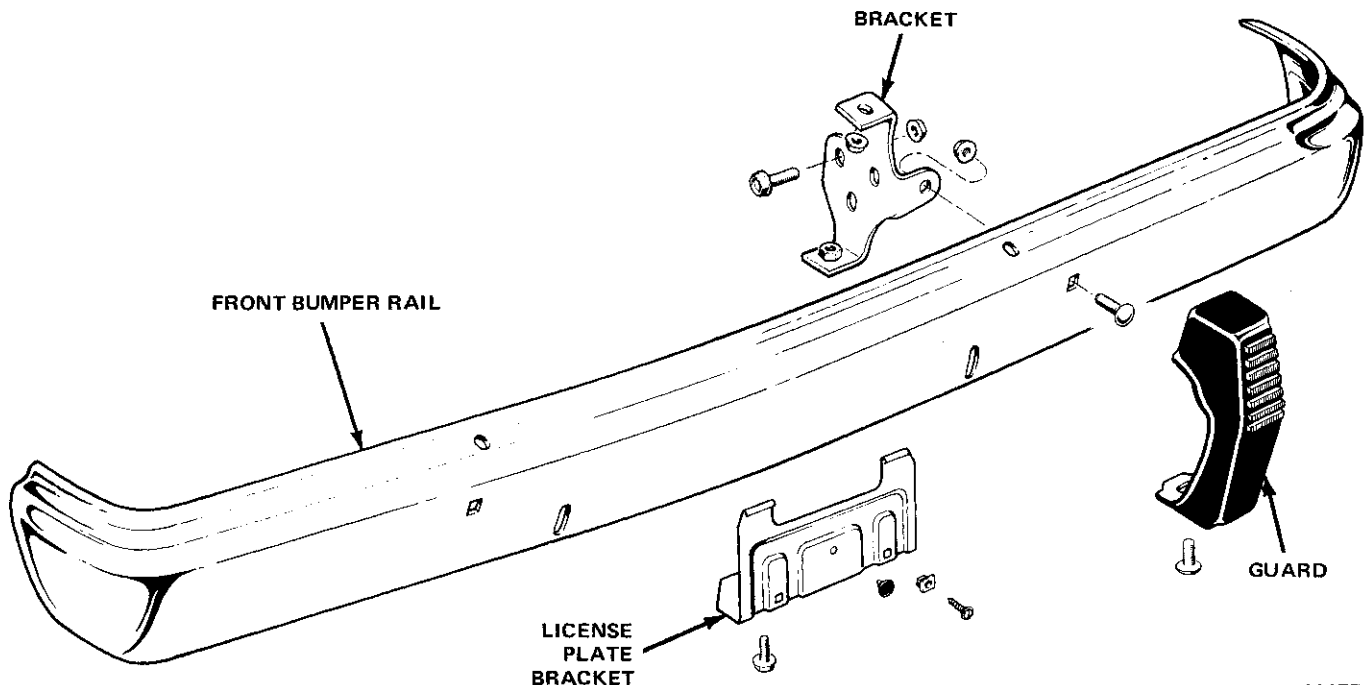

Fig. 3F-16 Front Bumper—Cherokee-Wagoneer-Truck Models
- (1) Remove vertical bumper guard (fig. 3F-16) from bumper end rail, if equipped.